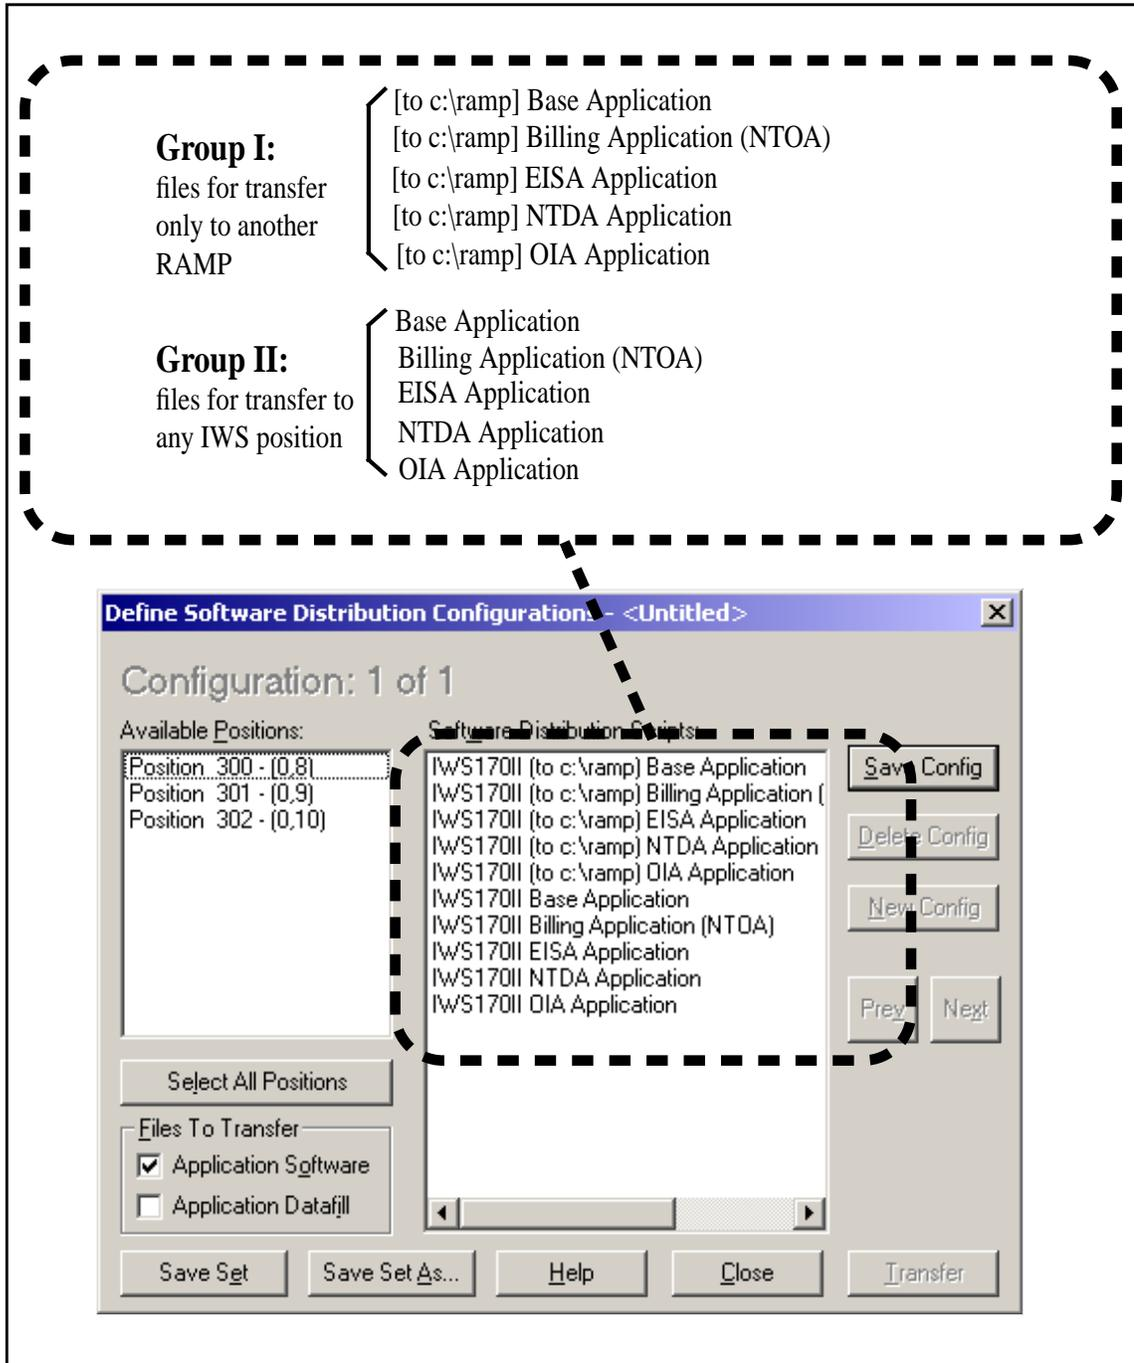

FIGURE 32. Example Software Distribution Dialog Box
12. **If no sets are listed, or if you need to create a new set, press Alt+N to select New. This opens the Define Software Distribution Configurations dialog box, shown in Figure 32.**
The list of software scripts includes preset scripts provided with the new software release, in addition to any customized scripts that have been created previously at your site. The list of scripts shown in Figure 32 is only an example. The actual content of the list always depends on which applications have been loaded onto the RAMP.
The scripts are divided into two groups, as illustrated in Figure 32:
16. Tab to the Files To Transfer option box (in the lower left corner of the window, as shown in Figure 32) and select the types of files to transfer.